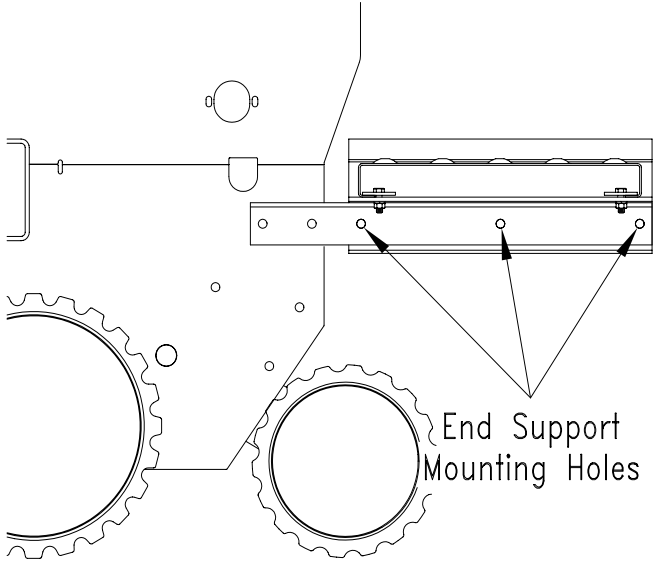

Figure 3 13268
3. Attach an End Support (#5) to each End Mount using three 1/2" x 1 1/4" long bolts (#3) and three 1/2" flange nuts (#4) on each support. See Figure 3 for mounting hole locations.